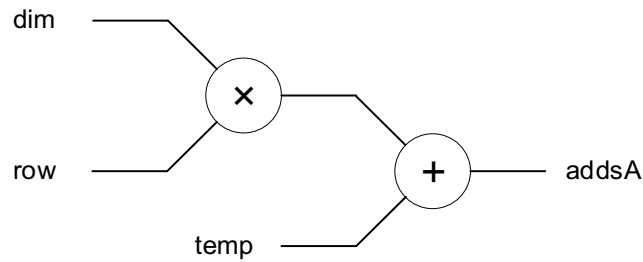

Figure 4 Address converting logic for matA
**N.B.** In hardware, multi-dimensional matrices are always stored as 1-D arrays in memory. We thus must generate the addresses to index the 2-D matrices using 1-D addresses during matrix multiplication (i.e., from  $matA[row][tmp]$  to  $matA[addr]$ ). One way to achieve this is to design an address generation logic as shown in Figure 4. Assume that  $matA$  and  $matB$  are both  $dim \times dim$  in size with iterators “row”, “col”, and “temp” ranging in  $[0, dim-1]$ . The address generation logic for  $matA$  is given below.